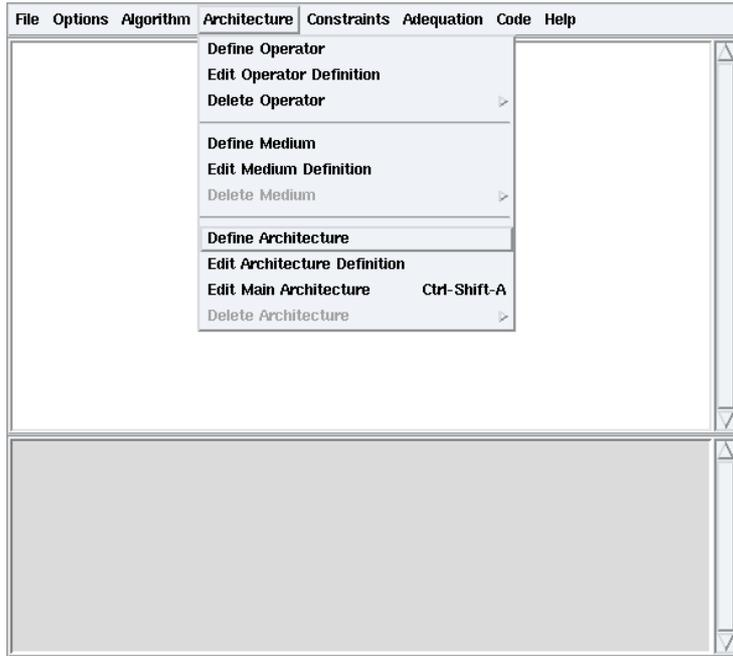

Figure 1.14: Architecture / Define Architecture
- from the main window: **Architecture / Define Architecture** (*cf.* figure 1.14) → dialog window: type `ArchiOneOperator` then click **OK** → definition window;
- from the main window: **Architecture / Define Architecture** (*cf.* figure 1.14) → dialog window `ArchiSamPointToPoint` → definition window;
- from the main window: **Architecture / Define Architecture** (cf. figure 1.14) → dialog window: `ArchiSamMultiPoint` → `ArchiSamMultiPoint` definition window;
- from the main window: **Architecture / Define Architecture** (cf. figure 1.14) → dialog window ArchiRam → ArchiRam definition window;